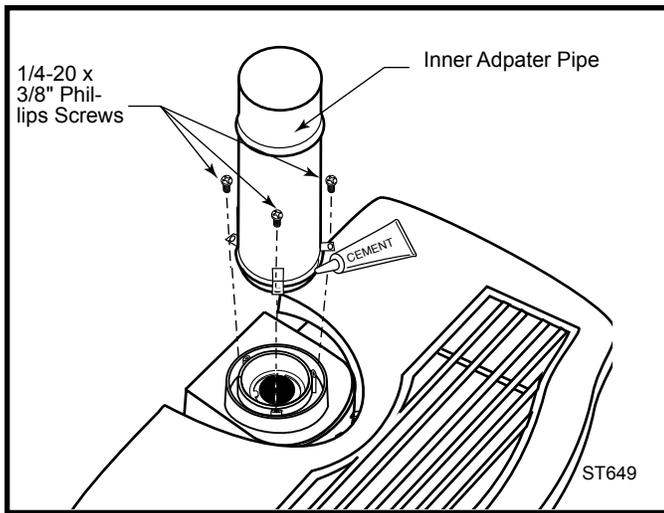

Fig. 22 DuraVent - install inner adapter pipe.
- Run a bead of sealant around the bottom end of the starter pipe and attach the assembly to the stove using three 1/4-20 x 3/8" Phillips screws provided in the parts bag. (Fig. 22)